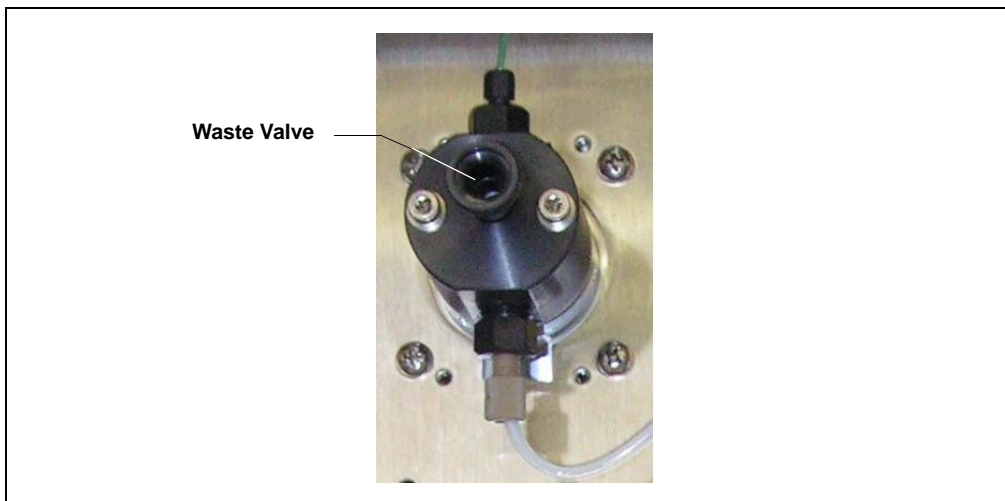

Figure 10-5. Waste Valve
2. To remove the waste valve from the pump head (see Figure 10-5), turn the knob counterclockwise until it is loose, and then pull the knob straight out of the cavity in the pump head.